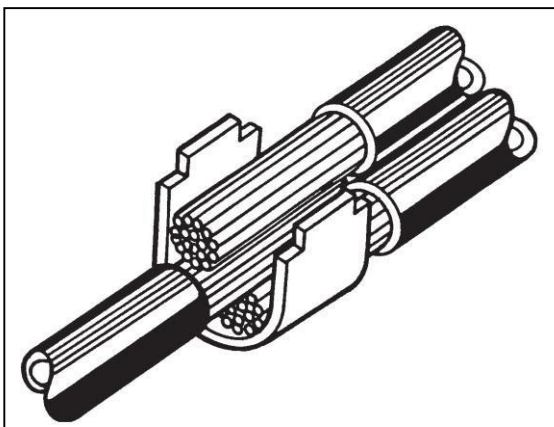

Figure 30
4. Position the stripped wire ends in the splice clip. The wire core should be visible on both sides of the splice clip (Figure 30).